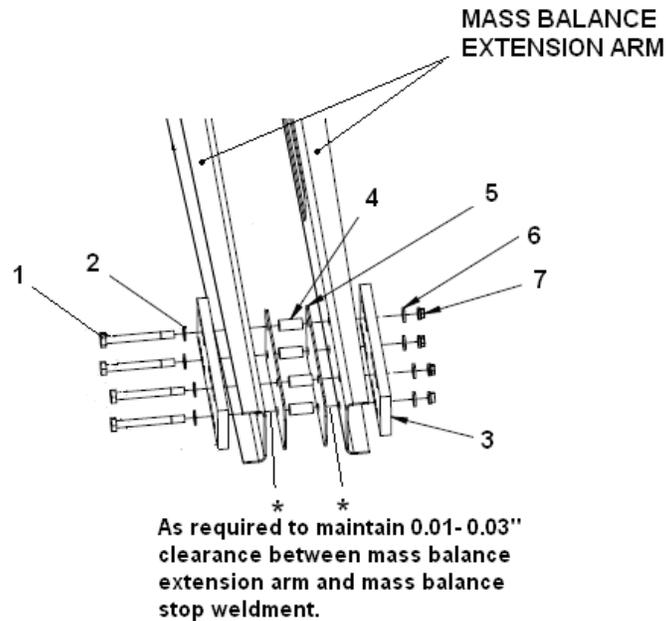

Figure 55-6 Mass Balance Weights
4. Refer to Figure 55-6. From inside airplane, remove mass balance plates from mass balance extension arm as follows:
- Nuts (7) – 4 ea
- Washers (6) – 4 ea
- Tailplane Balance Mass (3) – 2 ea
- Mass Balance Bearing Surface (5) – 2 ea
- Spacers (4) – 4 ea (and washers*, if required)
- Washers (2) – 4 ea
- Bolts (1) – 4 ea